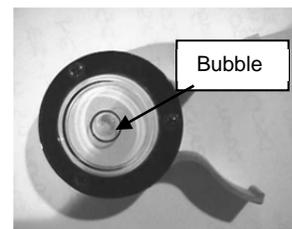

Figure 23
11. Before the Easytrack post tightens against the ceiling; check the clip-on level to make sure the bubble is in the centre of the circle. Tilt the post until the bubble reaches the centre of the circle (see Figure 22 and Figure 23).